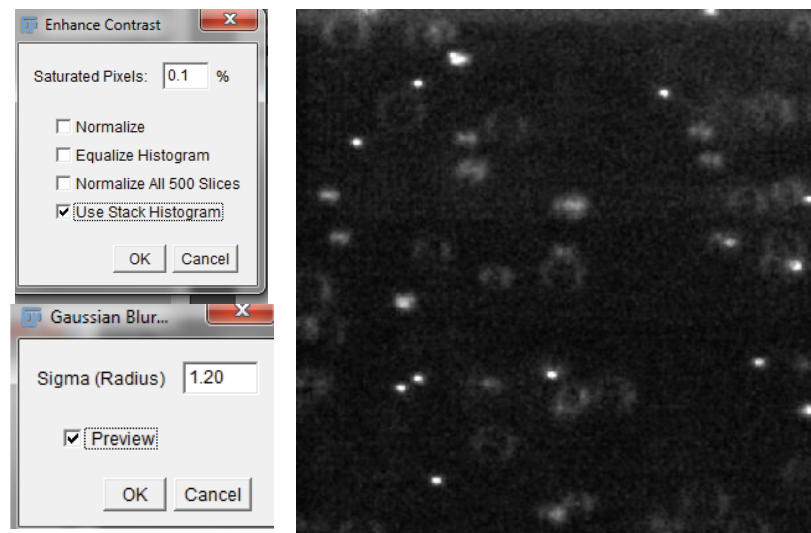

Figure 11. Parameters for better movie quality.
- 2) Next you need to improve contrast and adapt your movie so that it can be treated with ParticleTracker plugin. To do so use the **Image\Type\ 8 bit** option from File menu. Next you need to increase contrast you will do it by using **Process\Enhance Contrast** option from File menu. It is safe to select 0.1% saturated pixels under Use Stack Histogram see Figure 11. To filter out noise use **Process\Filter\Gaussian blur option** from File menu. Again safe sigma value to use is 1.2. Before applying this filtering you can preview your movie.